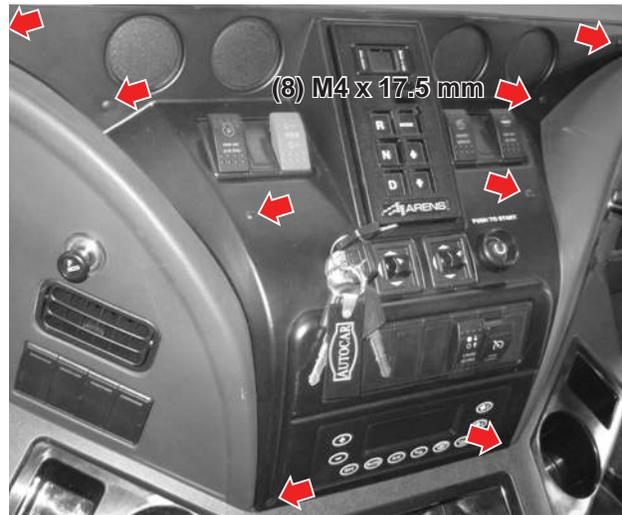

Figure 34-1
1. Install the eight M4 screws (do not tighten until all the screws have been located and the panel aligned correctly) (see *Figure 34-1*).
2. Install the eight screw caps ((A5700058-001) (see *Figure 34-1*).
3. Install gage panel caps (see *Figure 34-1*).
4. Push switches into their locating slots (see *Figure 34-1*).